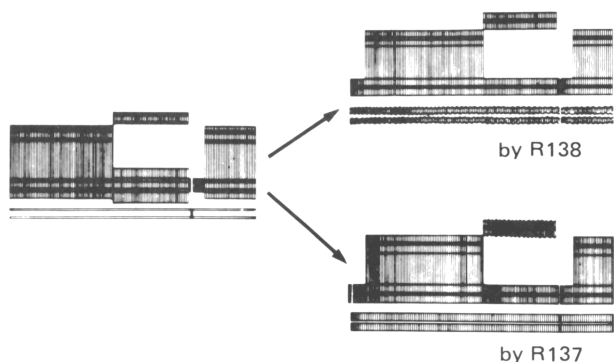

Fig. 3-14
3. Set the signal generator for 3.8 MHz and adjust R111 (CARRIER) to set the carrier as shown Fig. 3-14.
- Set the signal generator for 4.8 MHz and adjust R110 (DEVIATION) to set the deviation as shown in Fig. 3-14.